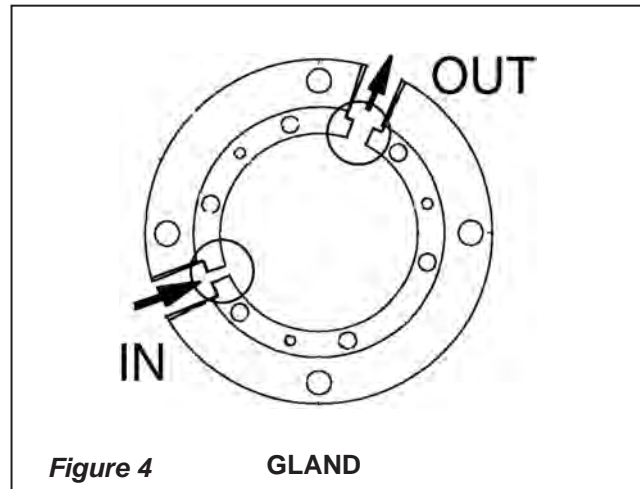

Figure 4
The mill is equipped with a face type seal which must be water cooled. The **IN** and **OUT** ports for introducing the water to the seal are located in the gland (1) *They are 1/4-inch pipe nipples, but the IN hole is smaller than the OUT hole to prevent over-pressurizing. (Figure 4)*